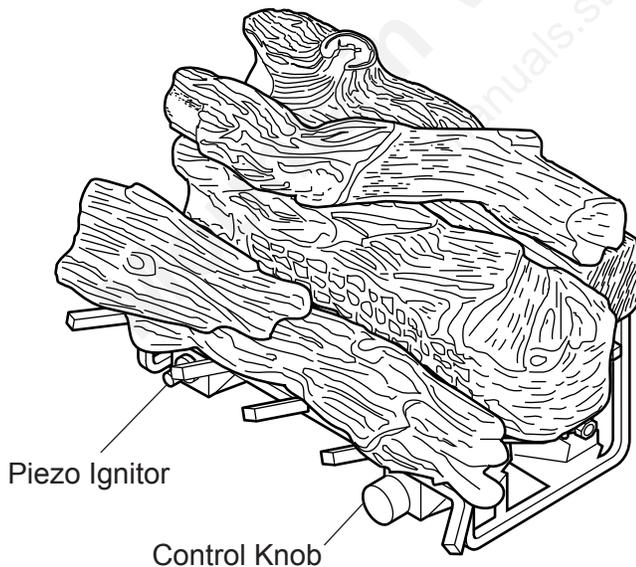

Figure 27 - Location of Piezo Ignitor and Control Knob on Manual and Thermostat Unit
4. See *Figure 27, page 26* for the location of the piezo ignitor and control knob. Push in gas control knob slightly and turn control knob clockwise to the OFF position.